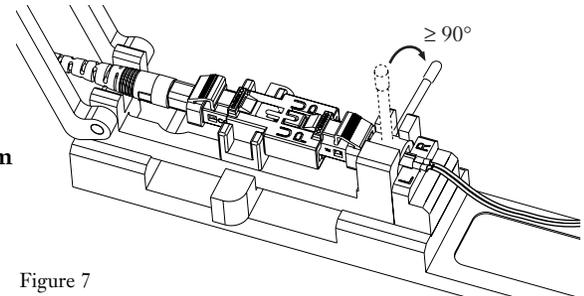

Figure 7
2.6 Rotate the wrench down until it stops. It is normal for the wrench to rotate beyond 90° ( an audible click from the tool is normal). The fiber is now held inside the splice (Figure 7). **The glow from the connector's cam should noticeably dim after the wrench is rotated fully down.**